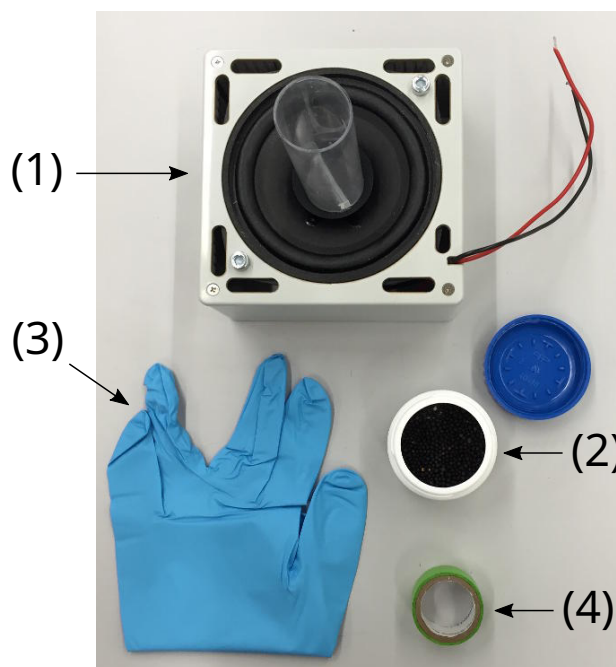

Figure 2: Additional equipment for this experiment.
- The amplitude of the saw-tooth signal can be adjusted using the right potentiometer labelled *speaker amplitude* (4). A DC voltage proportional to the signal amplitude is output on the *speaker amplitude* monitor socket (6) (with respect to the *GND* socket (7)). The numbers refer to the photograph (Figure 2) shown in the general instructions.